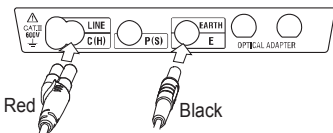

Fig. 9-2
(1) Connect the test leads as Fig. 9-2 shows.